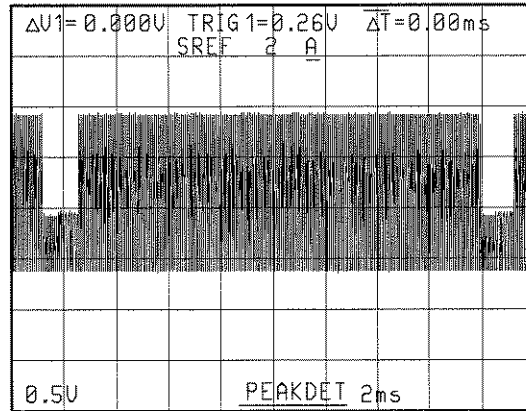

Figure 3-28: Multi-burst Signal Triggered in TV Field
- Step 5:** Adjust the **A TRIGGER LEVEL** to stabilize the display (Figure 3-28).